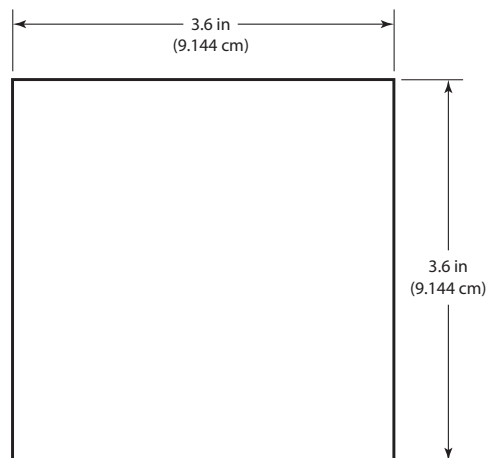

Figure 2: Panel cutout
1. Cut a 3.6 in. × 3.6 in. (9.144 cm × 9.144 cm) square opening in the panel. See *Figure 2*.